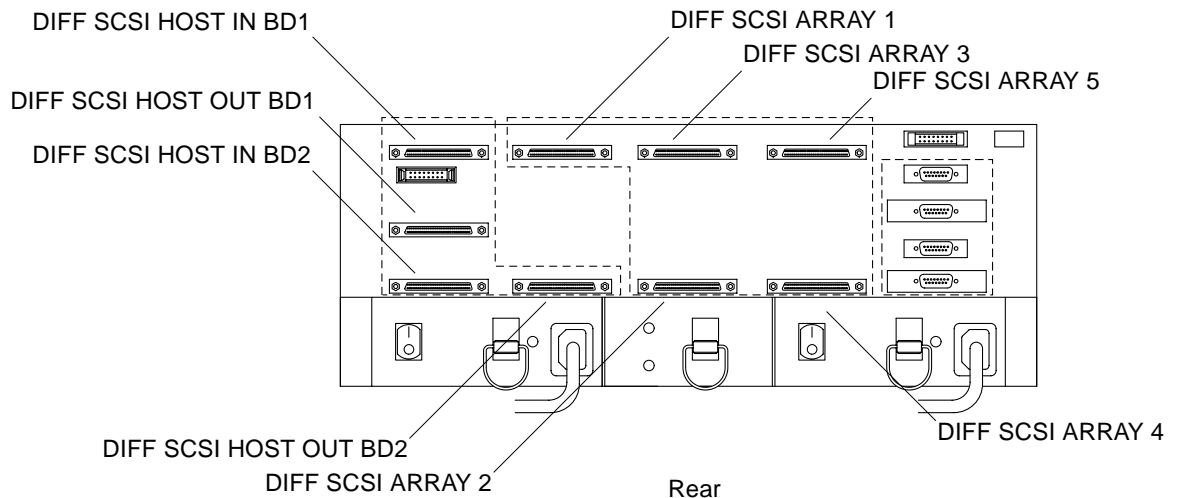

FIGURE 2-9 Differential SCSI connectors
1. **Install 16-bit, differential terminators to both HOST OUT connectors on the back of the controller module** (FIGURE 2-9).
- 16. Install the 16-bit, differential terminators to both HOST IN connectors on the back of the controller module** (FIGURE 2-9).
- 12. Install the 16-bit, differential terminators to both HOST IN connectors on the back of the controller module** (FIGURE 2-9).
1. **Make sure the power switches for both power supplies in the controller module are off** (FIGURE 2-9).